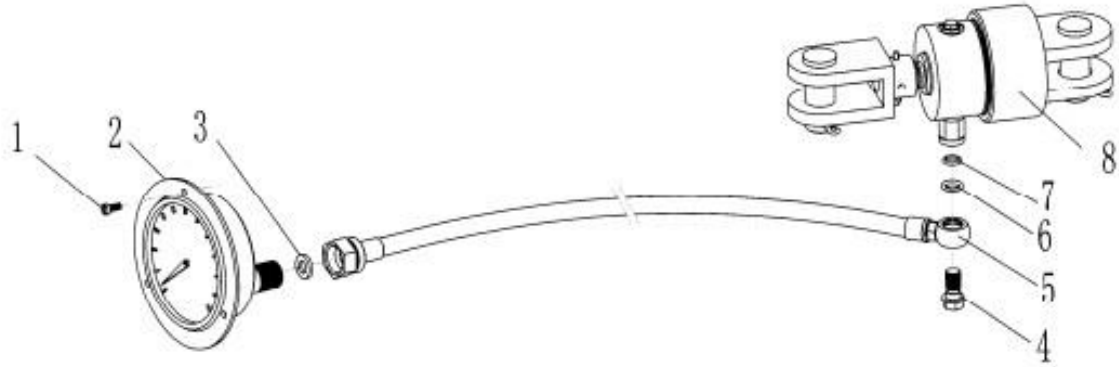

Fig .7-26
26.Torque testing system of master tong (Fig7-26, Table26)